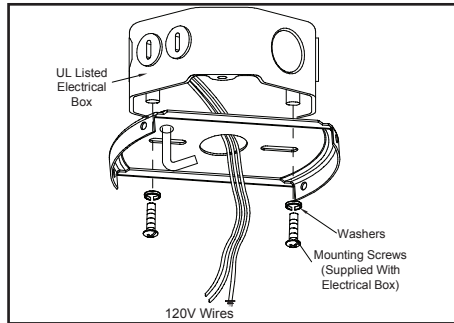

Figure 8
1. Pass the 120-volt supply wires through the center hole in the ceiling mounting plate as shown in Figure 8.
2. Install the ceiling mounting plate on the electrical box by using the mounting screws provided with the electrical box. Note that the flat side of the mounting plate is toward the electrical box. (Figure 8)